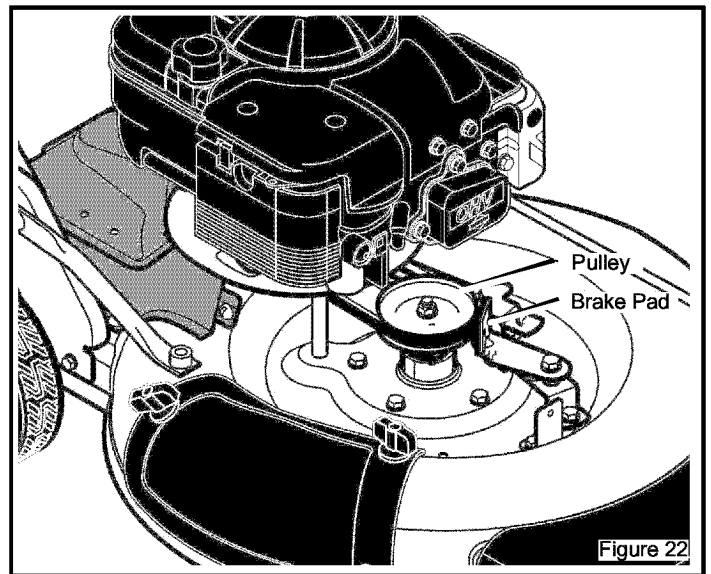

Figure 22
8. Check the operation of the blade brake. Rotate the pulley with your hand. Make sure the **brake pad** is pressed tightly against the pulley (Figure 22).